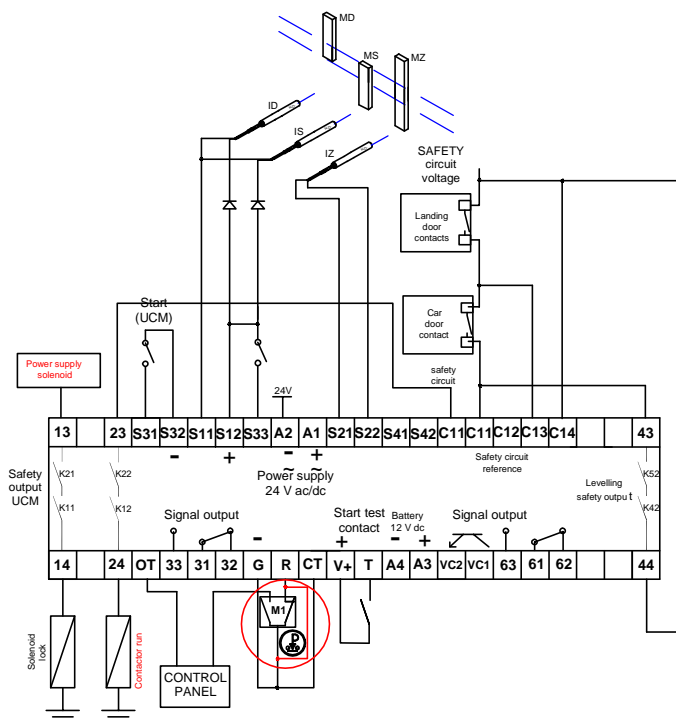

FIG. 2 Fault simulation of the solenoid lock
- 4) Shortcircuit the input R as indicated fig.2 (Annex A)